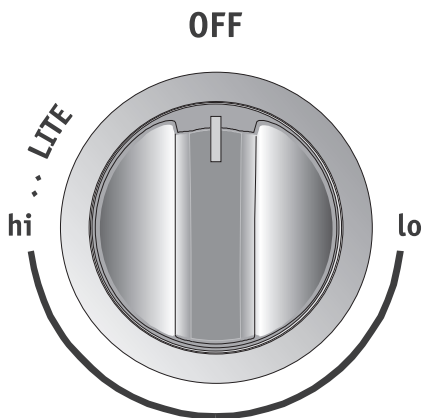

Figure 2: Gas knob LITE position
3. Release the knob and rotate to the LITE position (see figure 2). Note: All four electronic surface igniters will spark at the same time. However, only the burner you are turning on will ignite.